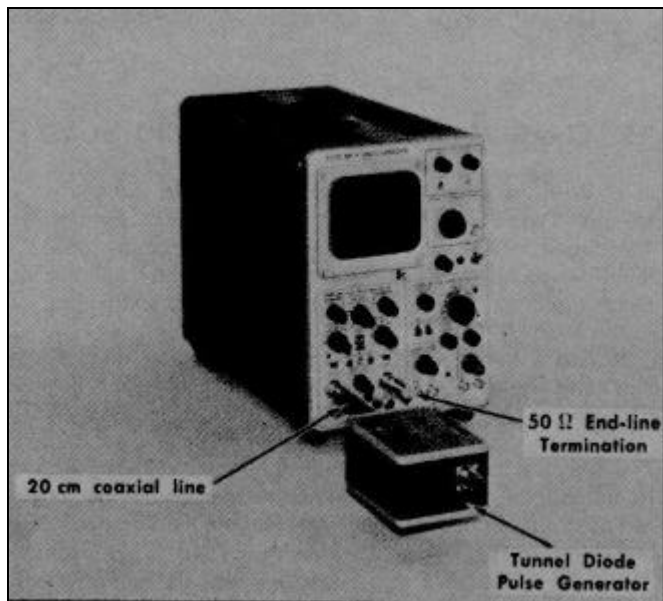
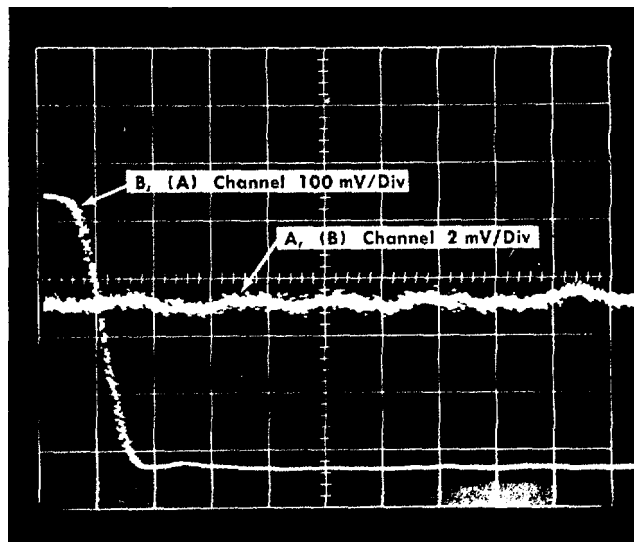

Fig. 8-30. Equipment and connections for Step 26.
Fig. 8-31. Interchannel crosstalk waveforms. Step 26.
B POSITION	Trace as in Fig. 8-31
Time Position	Display as in Fig. 8-31
a. Make the connections and control settings listed under Fig. 8-30. It may be necessary to adjust the Channel A DC OFFSET control to position the display correctly. Adjust the Timing Unit Trigger Sensitivity control for a stable display. The Tunnel Diode Pulse Generator negative pulse and Channel B trace should both be visible, similar to Fig. 8-31.